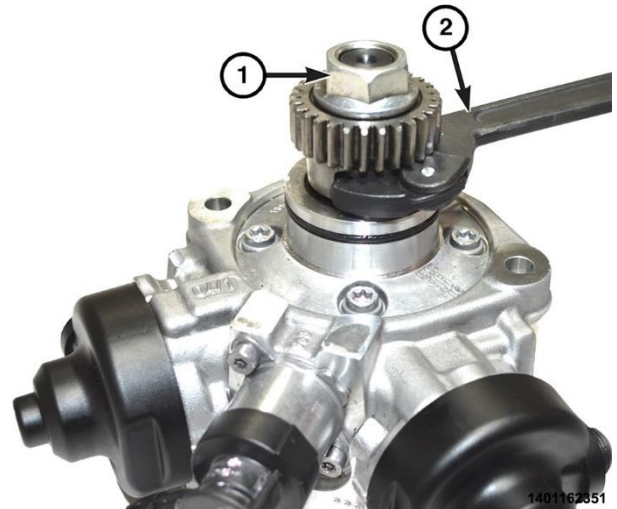

Figure 143 – Nut with Spanner Wrench
83. Using a commercially available spanner wrench (2) such as Blue Point APS35IB or equivalent, tighten the nut (1) to 50 N·m (37 ft. lbs.) (Figure 143).